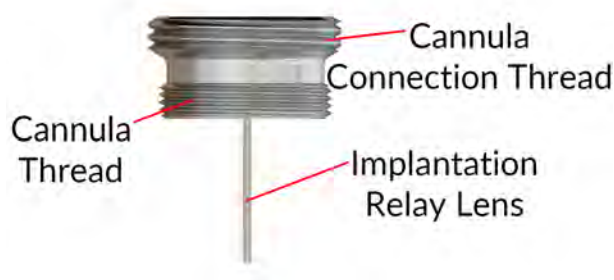

Figure 3.2: Twist-on efocus Type-L Imaging Cannula
- The **Twist-on Connection System** allows the removal of the microscope body from the imaging cannula between each imaging session without affecting image position. The **Microscope Barrel** secures the microscope on a *Twist-on Imaging Cannula* (see Fig. 3.2, and the *Imaging Cannula Implantation & Microscope Installation for eTFMB3 / eTOSFM3 application note* for more information on the microscope attachment procedure).
The Imaging Cannulas transmit images of structures located inside the brain to the surface of the skull. An imaging cannula (Fig. 3.2) contains the following elements: